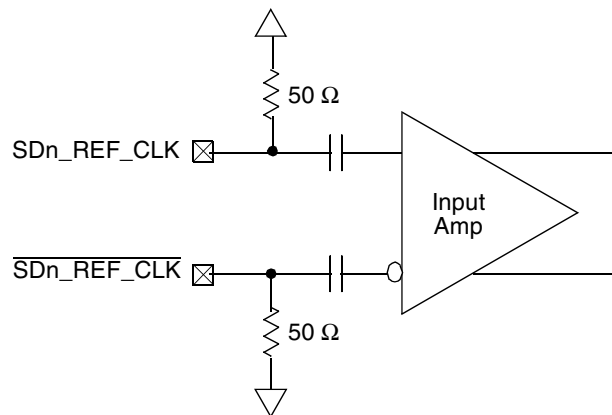

Figure 58. Receiver of SerDes Reference Clocks
Figure 58 shows a receiver reference diagram of the SerDes reference clocks.
- The SDn_REF_CLK and $\overline{SDn_REF_CLK}$ are internally AC-coupled differential inputs as shown in Figure 58. Each differential clock input (SDn_REF_CLK or $\overline{SDn_REF_CLK}$) has a 50- Ω termination to SGND (xc0revss) followed by on-chip AC-coupling.